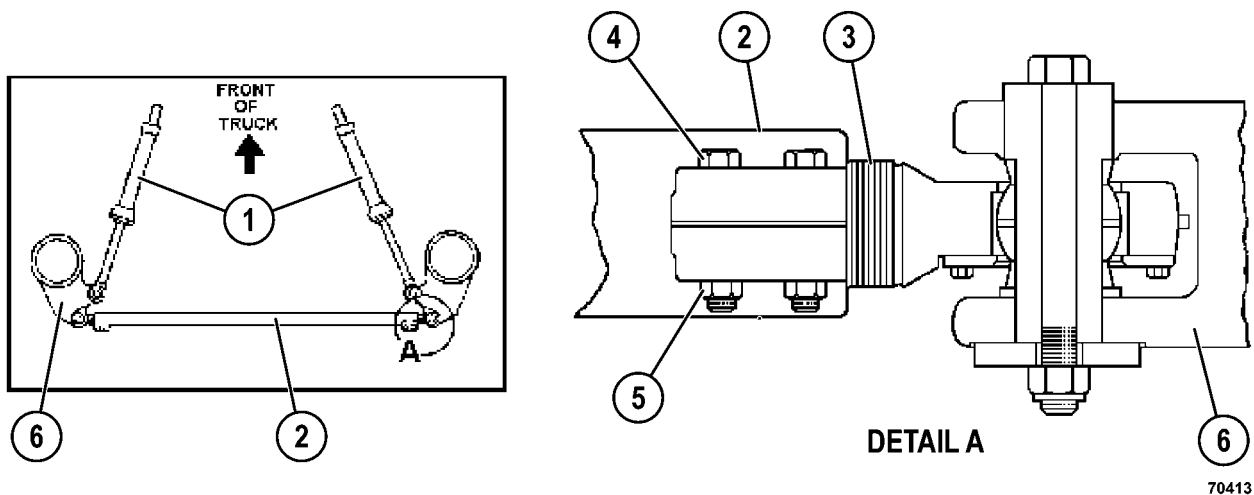

FIGURE 3-16. TYPICAL TIE ROD ASSEMBLY
- a. Loosen clamp locknuts (5, Figure 3-16) on the tie rod. Rotate the tie rod as necessary to obtain the correct toe-in setting of 3 667 mm (144.37 in.).
5. Tighten locknuts (5, Figure 3-16) to **420 ± 42 N·m (310 ± 31 ft lb)**.
*NOTE: The threads of both threaded rod ends (3) and all four capscrews (4) are lubricated with a lithium based multipurpose grease (EP NLGI No. 2).*
*NOTE: Locknuts (5) must be installed on the same side of the tie rod as the bearing retainer (downward side) as shown in Figure 3-16.*